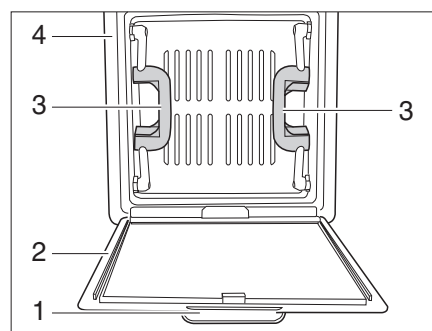

Fig. 28 Skylight with snap latch
- Pull down the insect screen (Fig. 28,2) with the handle (Fig. 28,1). The insect screen folds down.
- Push the skylight upwards using both handles (Fig. 28,3).
- Fold the insect screen upward and latch it in at the frame (Fig. 28,4).
- Pull the skylight downwards with force using both handles (Fig. 28,3).